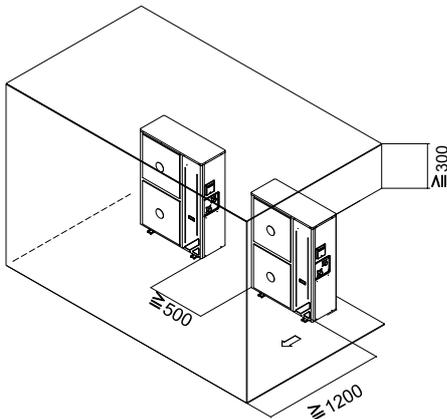

Figure 10
- b. Group installation (two or more units) (see Figure 10)